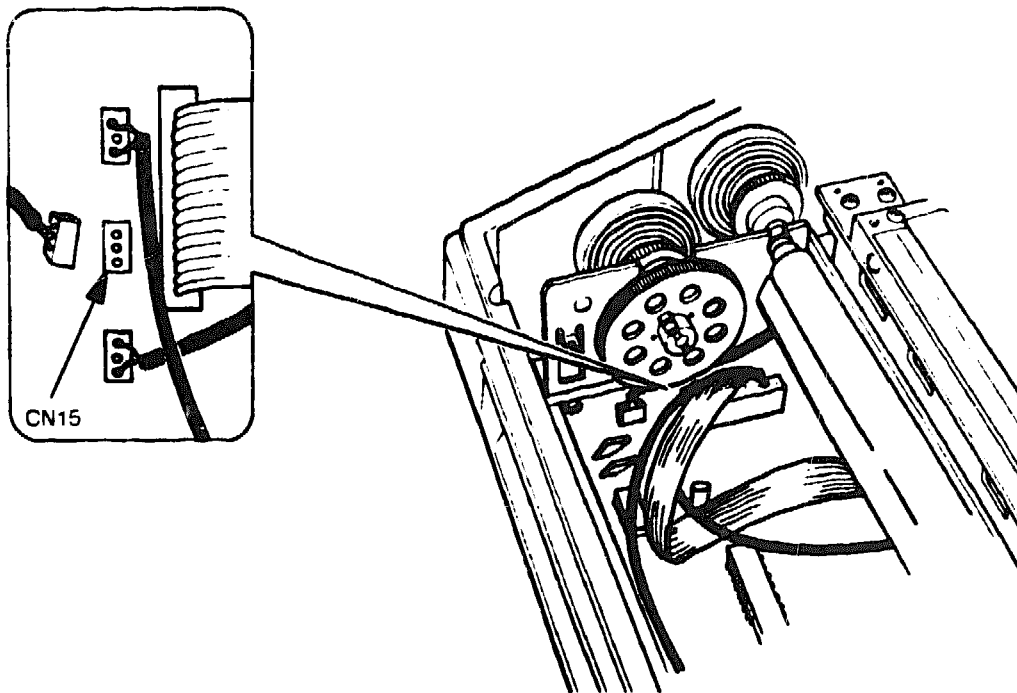

Figure 6-26 DC Fan (R) Cable Connector CN15
3. Unplug the DC fan cable connector CN15 from the G8CRJ mechanical control board (see Figure 6-26).